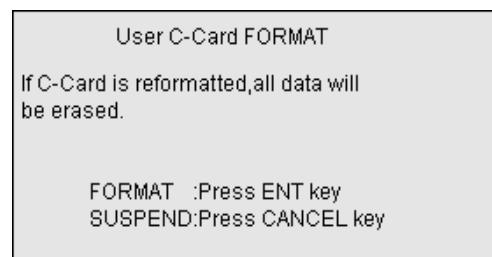

Figure 6.77 User C-Card FORMAT MENU
- (3) Move the Joystick up or down to highlight FORMAT and press the Joystick to the right. The User C-Card FORMAT menu will appear. (Figure 6.77)